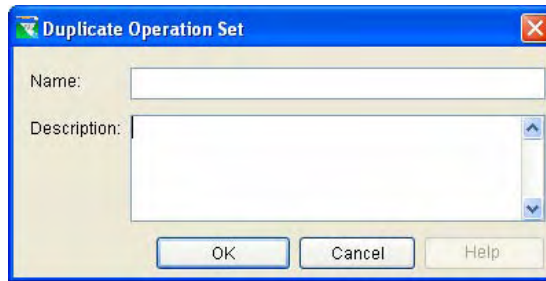

Figure 11.4 Duplicate Operation Set
2. Select **Duplicate** from the **Operations** menu of the Reservoir Editor. The **Duplicate Operation Set** dialog box will open (Figure 11.4).